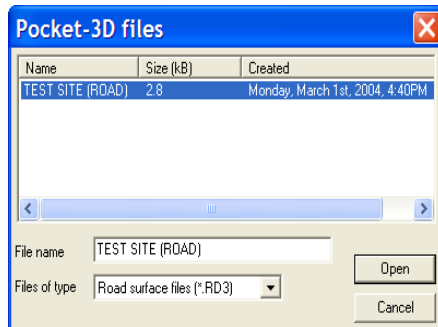

Figure 6-2. Select and Open Pocket-3D Alignment File
3. On the **Pocket-3D files** dialog box, select the file to import and click **Open** (Figure 6-2 on page 6-3). The file type is automatically selected. The alignment information from the selected file is added to the 3D Project file.